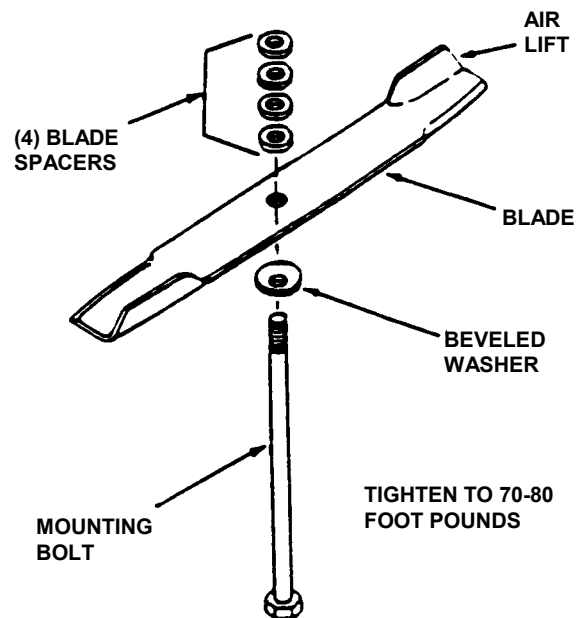

FIGURE 4.2
5. Check torque of blade mounting bolts. Torque to 70 to 80 ft. lbs. See Figure 4.2.